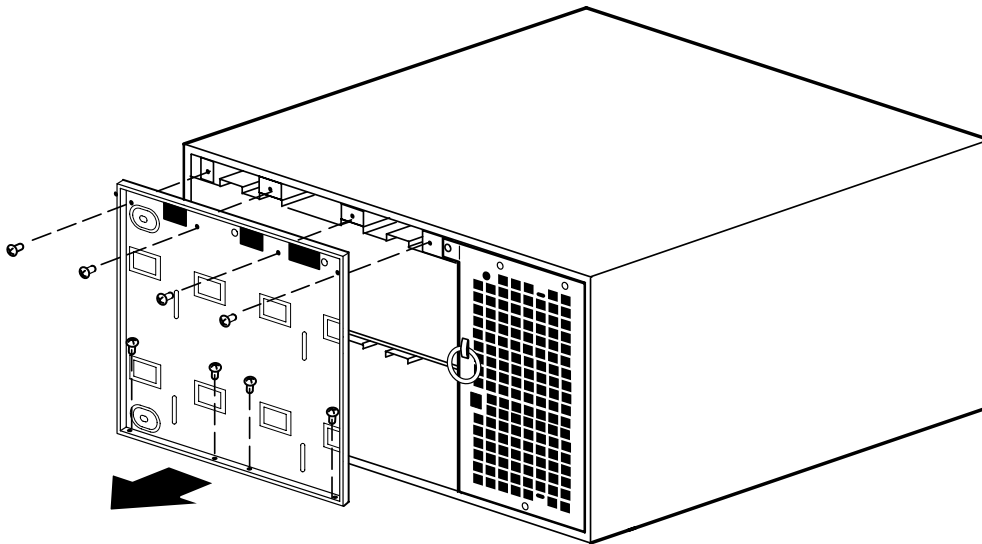

Figure 26. Removing the UPS Battery Cover Plate
2. Remove the eight screws on the battery cover plate and retain. Remove the plate and retain. See Figure 26.